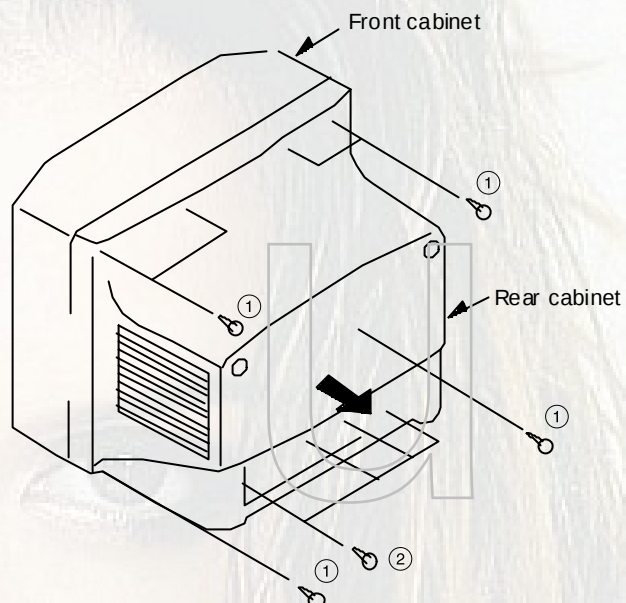

Figure 1-1
- (1) Remove four screws ①, and three screws ②, then remove the rear cabinet in the direction of the arrow. (See Figure1-1)